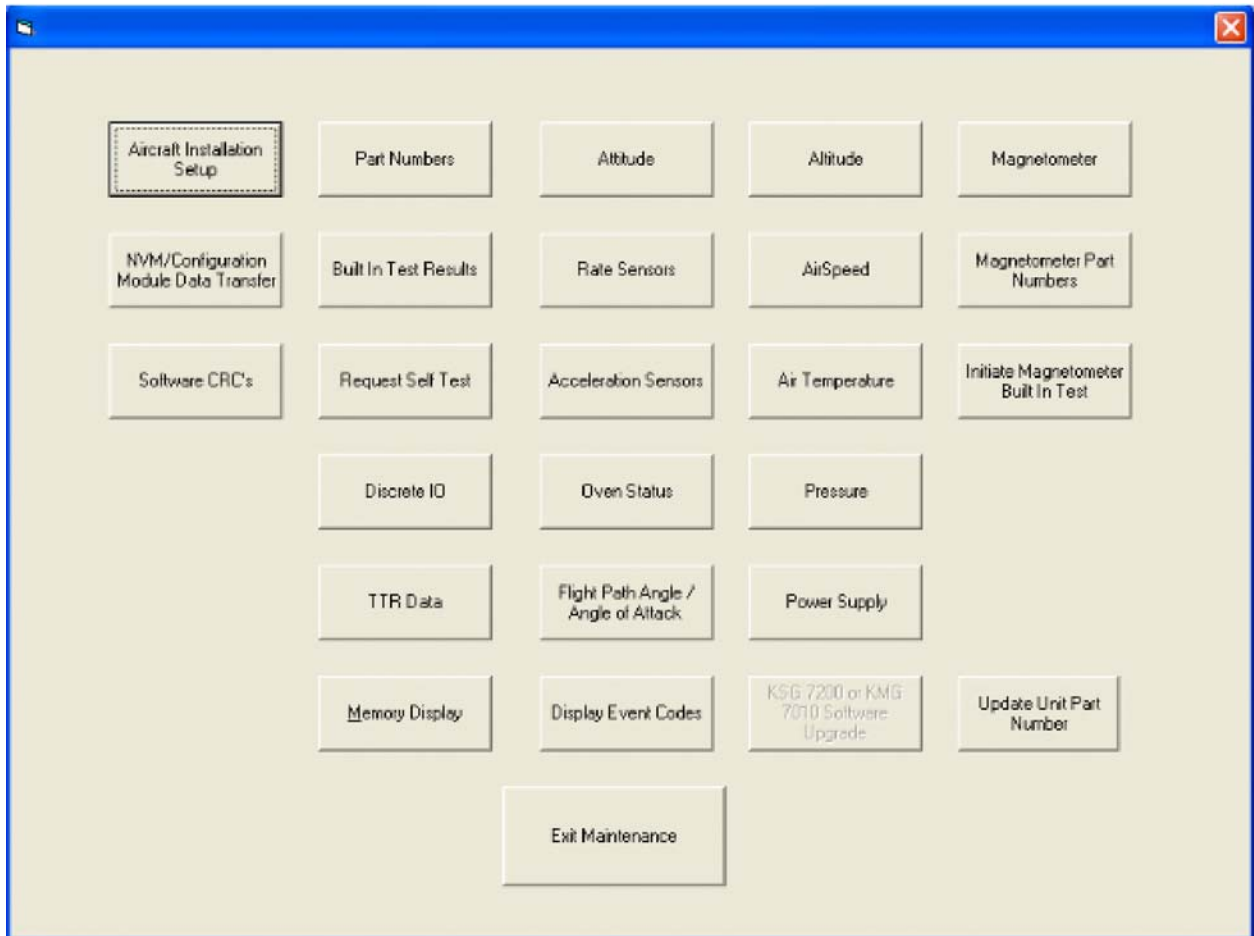

Figure 24. (Sheet 1 of 1) Start Maintenance Window (Aircraft Installation Setup)
- (2) Restart the KSG 7200 field maintenance program.
- (3) Select the appropriate COMM port on the laptop computer and click the Start Maintenance button.
- (4) Click on the Aircraft Installation Setup button. Refer to Figure 24.